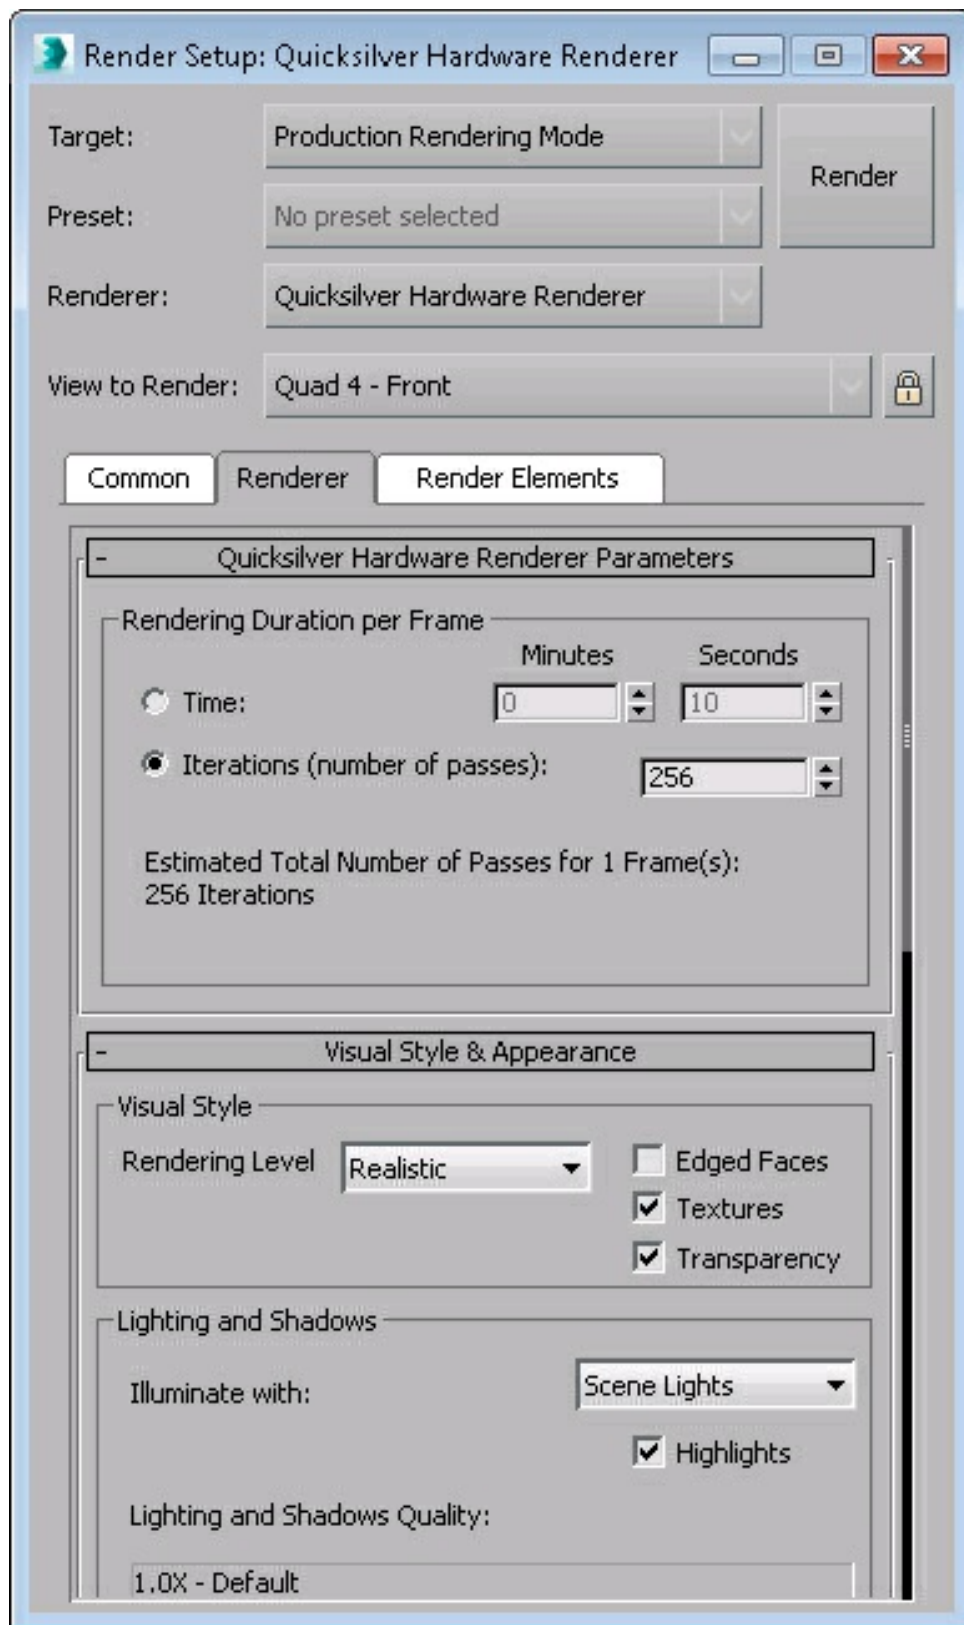
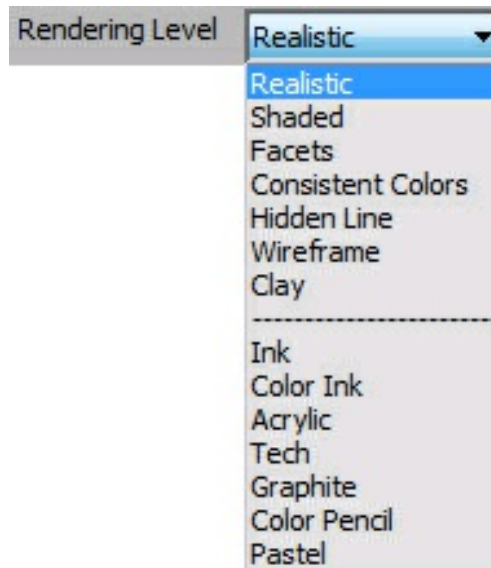

Figure 2-43 The Render Setup: Quicksilver Hardware Renderer dialog box
Figure 2-44 The Rendering Level drop-down list
3. Choose the **Renderer** tab; various rollouts will be displayed, refer to Figure 2-43. In the **Visual Style** area of the **Visual Style & Appearance** rollout, various options are available in the **Rendering Level** drop-down list, as shown in Figure 2-44.